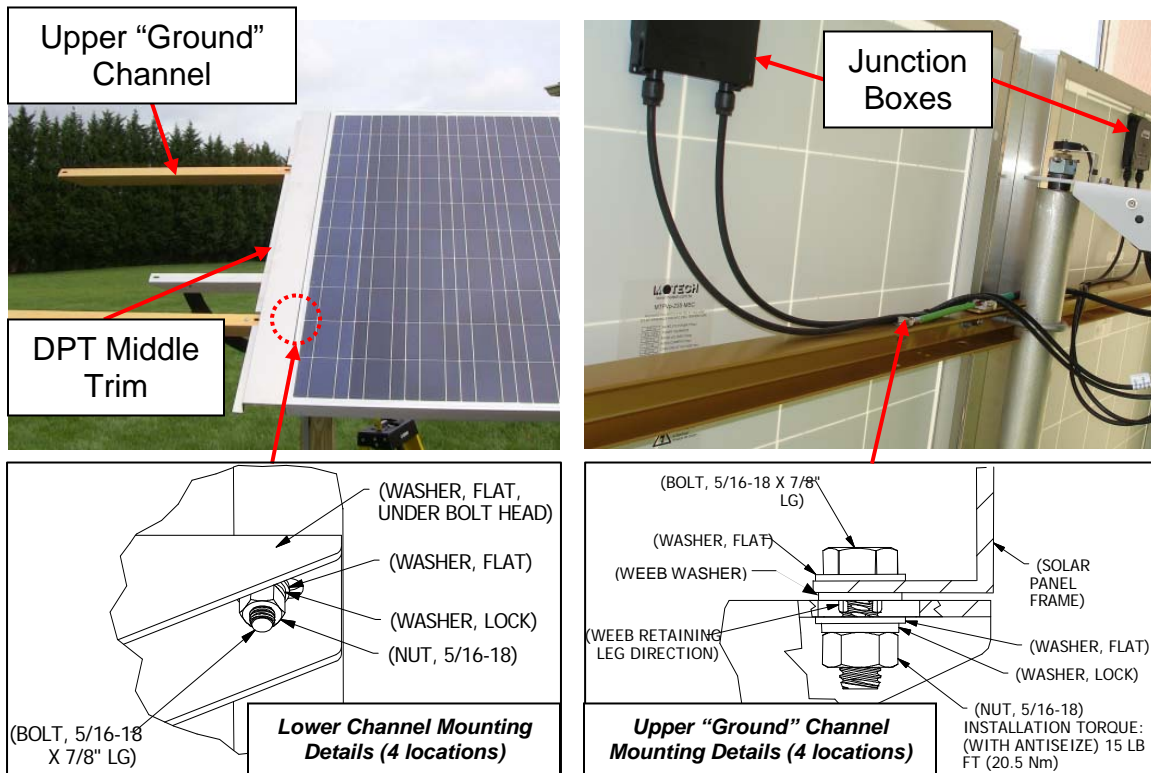

Figure 15
1. Orient the solar panels with the cable Junction Boxes up. With the DPT Middle Trim laid in place, mount one Solar Panel at a time to the upper and lower channels using the Solar Panel Installation Hardware. Each panel has two mounting locations per mounting channel. Be sure to use the two provided WEEB Grounding washers for each panel between the upper “Ground” channel and the Solar Panel frames. See Figure 15.